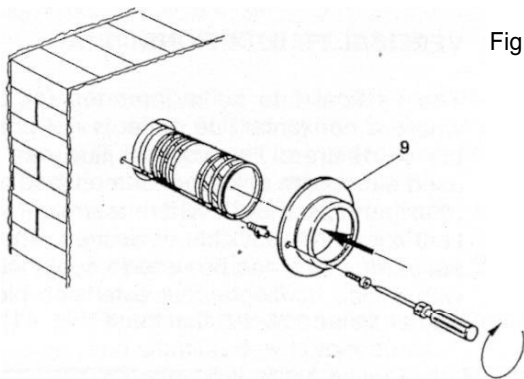

Fig. 37
5.7.10 Fit terminal cover plate if required (Fig. 37).